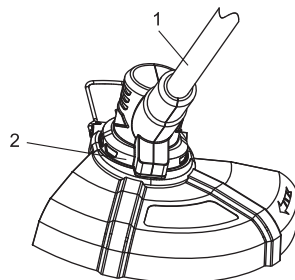

Fig. 7
1. Grasp the telescoping shaft (1) with one hand (Fig.7).